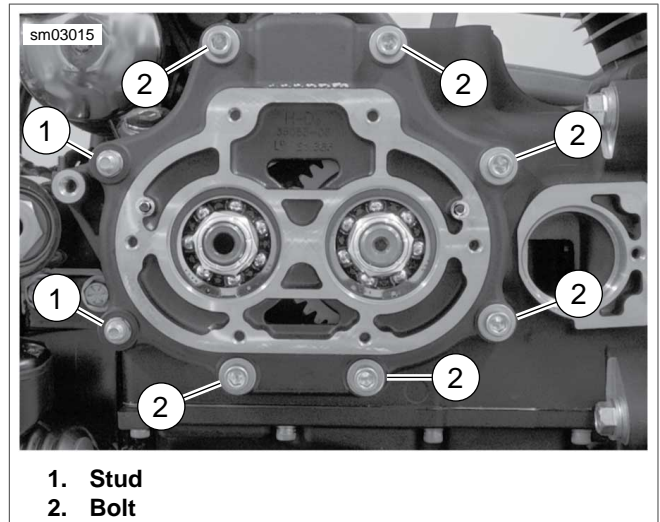

Figure 6-11. Side Door Hardware
12. See Figure 6-11. Remove the transmission side door mounting hardware. Remove exhaust bracket, if equipped.